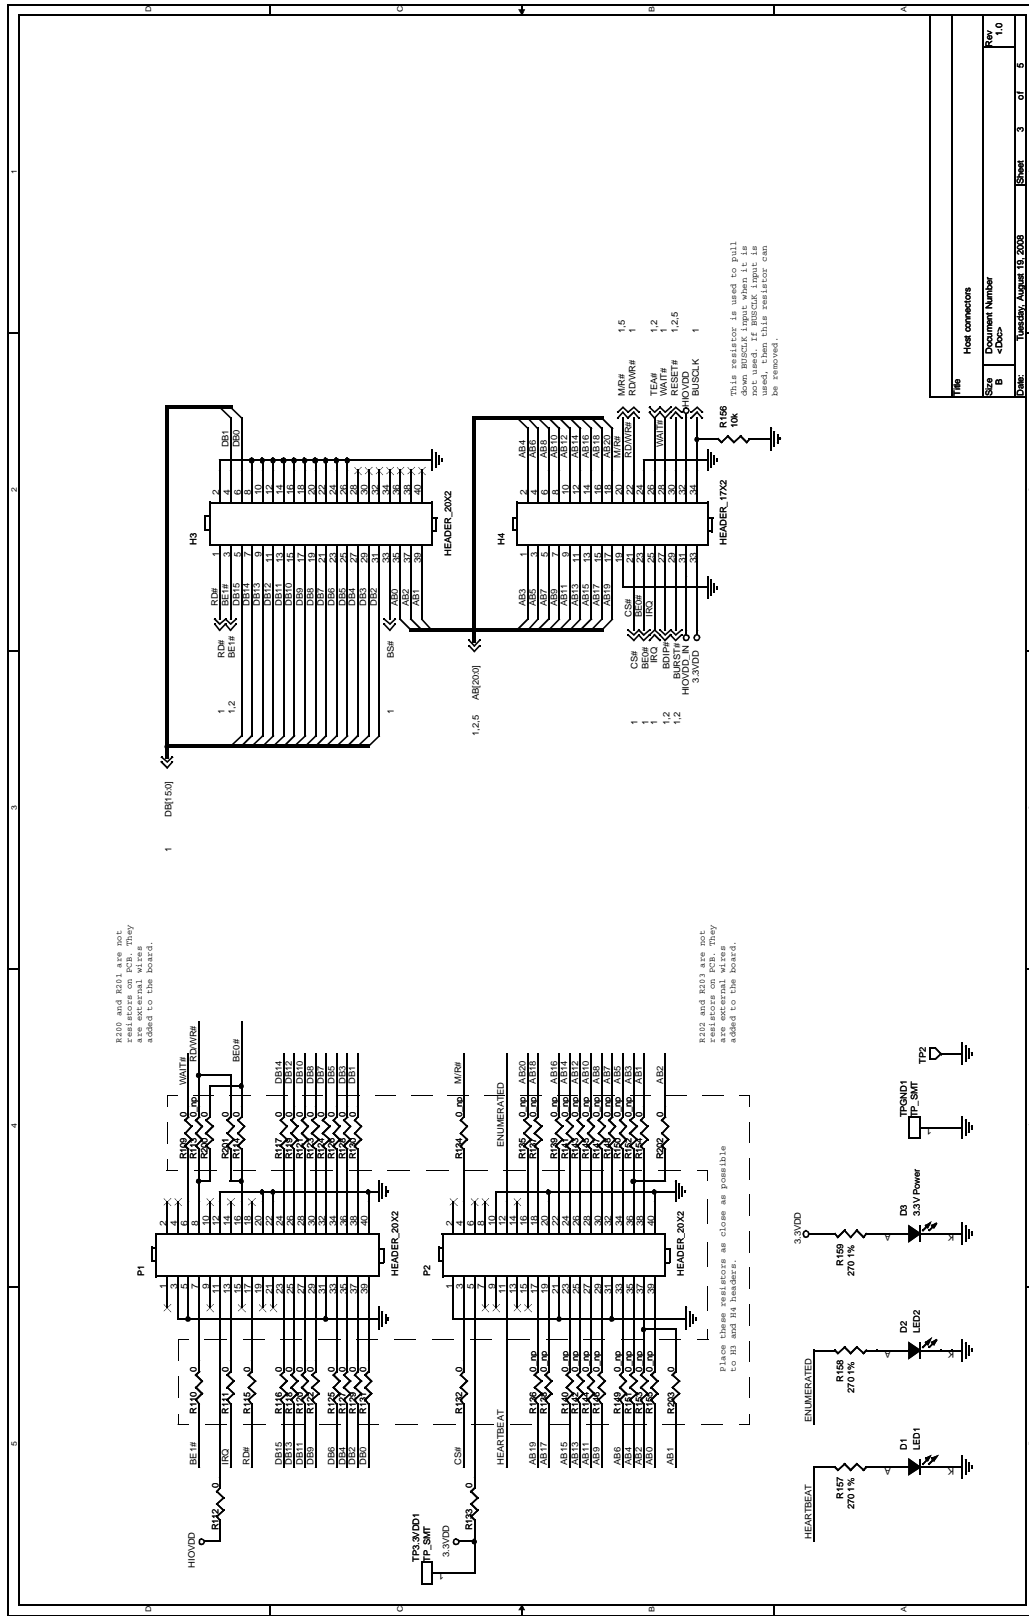

Figure 6-3: S5U13515P00C100 Schematics (3 of 5)
- chapter 6 Schematic Diagrams - replace figure 6-3